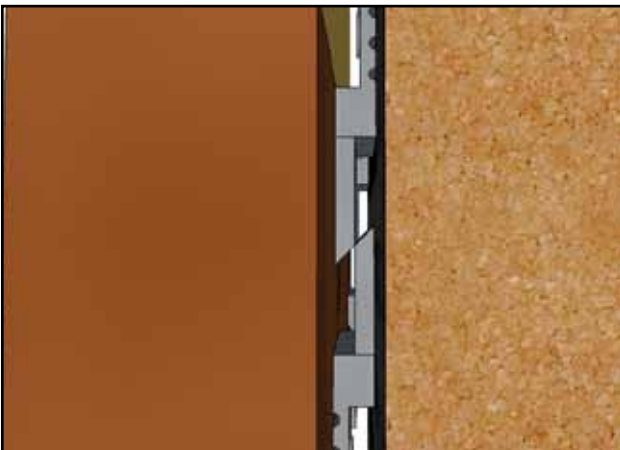

Figure 6
6. Hang the Sereno (Figure 6 and 7)